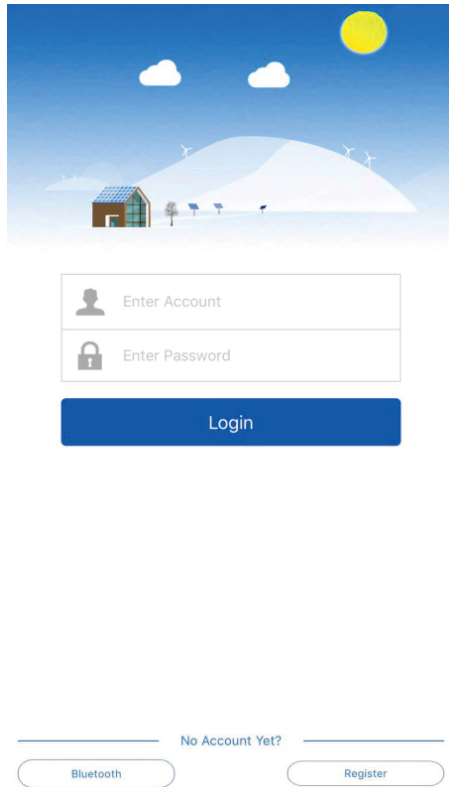

Fig.10
- ①.After scanning the code to download the photovoltaic APP, the user opens the APP and enters the login interface in Figure 10;